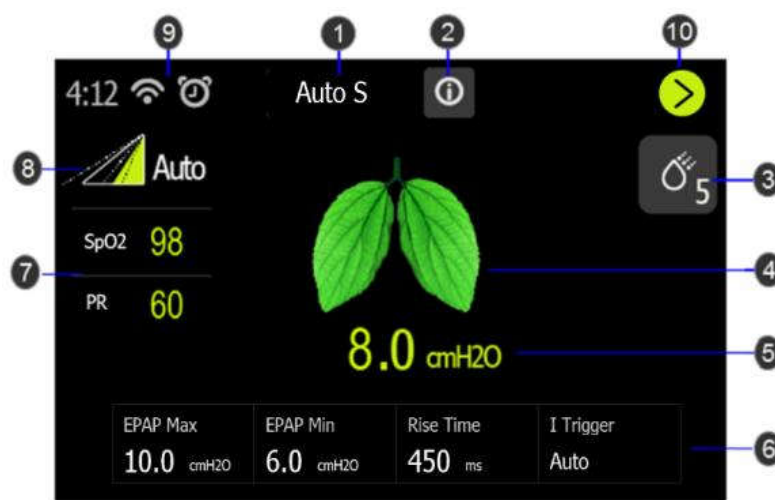
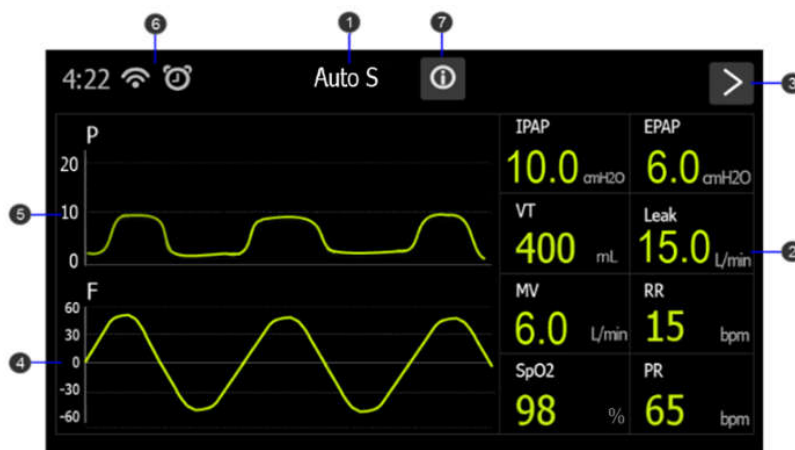

Figure2 Patient Therapy Clean Interface
Figure3 Patient Therapy Detail Interface
3. Press the Therapy On/Off key on top of the device to turn on airflow and begin therapy. The screen will display to patient therapy clean interface (see Figure 2).
When the therapy starts, the screen will switch to the Patient Therapy Interface, which displays the therapy parameters monitoring during therapy. The default screen is a clean interface (See Figure2) only displaying key parameters of the current therapy mode. For more information about therapy, you can switch to a detail interface (See Figure3) which displays pressure and flow real-time waveform, tidal volume, minute volume, leak etc. The displayed parameters depend on the current therapy mode.